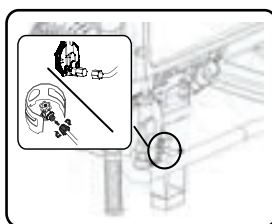

Fig 8
- Connect the propane hose to the intake nozzle of regulator; Open the valve on the LPG tank (See fig 8)